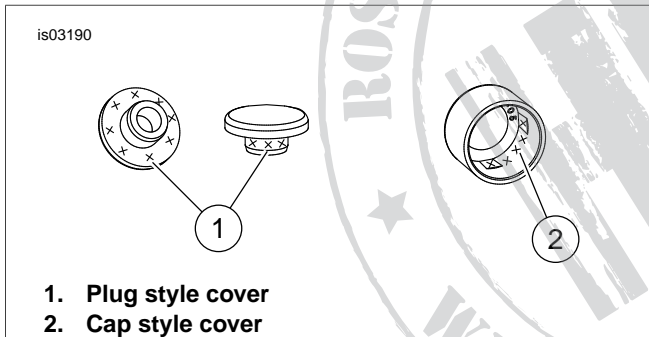

Figure 1. Silicone Adhesive Application Area
See Figure 1. This kit includes a container of silicone adhesive. For the plug style covers (1), apply adhesive in the area marked with "x". For cap style covers (2), apply adhesive in the area marked with "x".